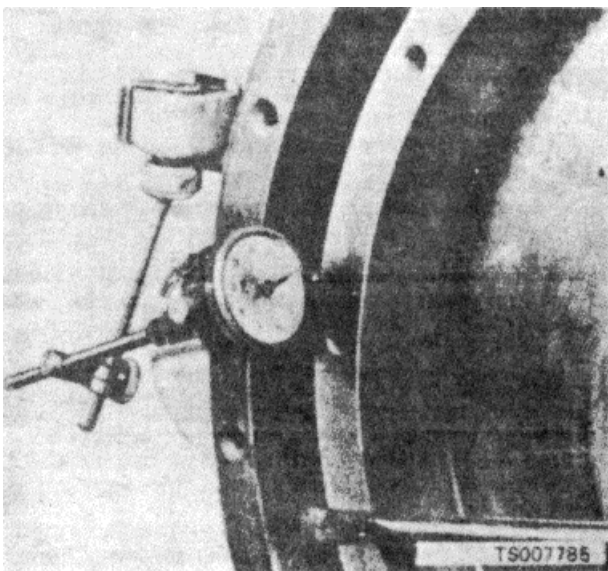

Figure 9-21. Checking Flywheel Runout.
c. Check flywheel runout by mounting a dial indicator (fig. 9-21) and rotating the crankshaft through one full revolution. Hold pressure against the flywheel to eliminate crankshaft end play. If flywheel runout exceeds 0.008 inch, remove the flywheel and clean the crankshaft flange and flywheel seat. Install the flywheel and recheck runout. If runout still exceeds 0.008 inch, replace the flywheel.